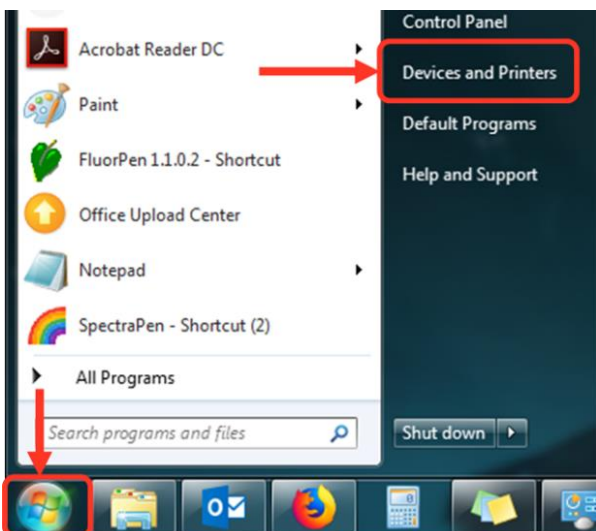

Fig. 13 Start Bluetooth application.
- Select: **Start > Devices and Printers** (Fig. 13).